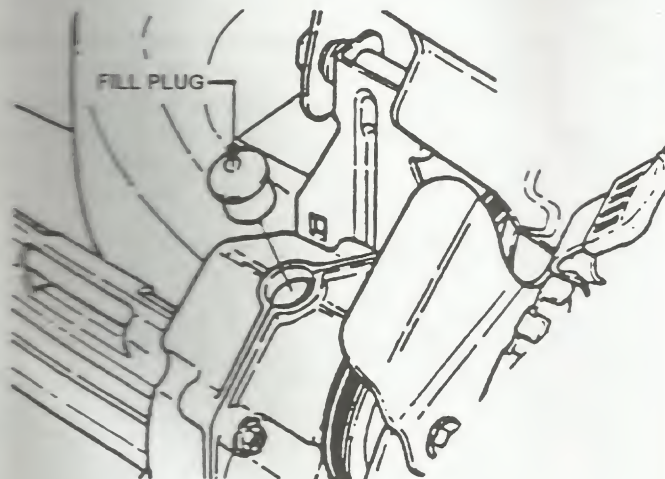

FIGURE 3.2
2. If liquid grease IS NOT visible on the input gear (the small gear below the plug hole), add an amount to cover gear, of Snapper "00" grease. See Figure 3.2.